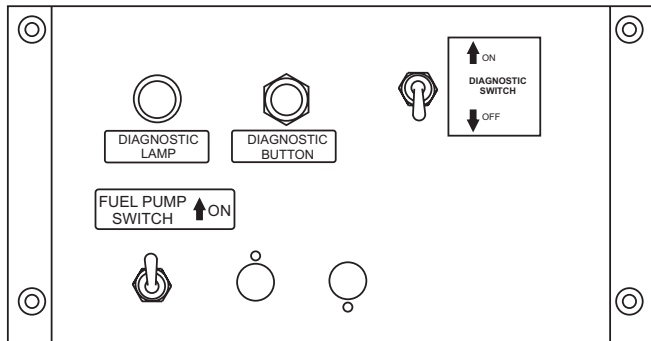

Figure 68. Diagnostic Panel
5. To start the diagnostic process, place the **diagnostic switch** to the **ON** (Figure 68) position.